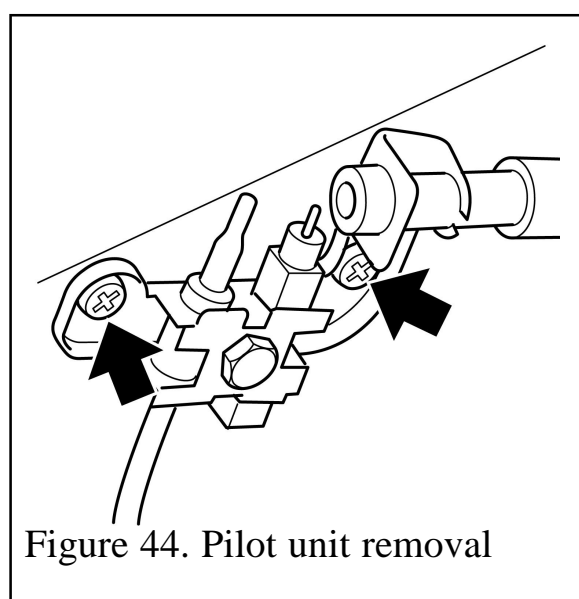

Figure 44. Pilot unit removal
6. Remove the two screws securing the pilot unit (See figure 44).